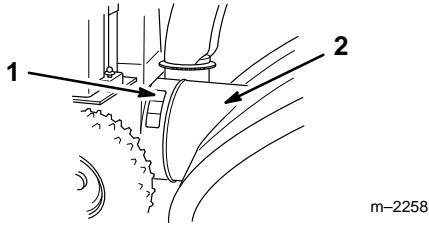

Figure 16
33. Install the warning decal on the impeller housing (Fig. 16).